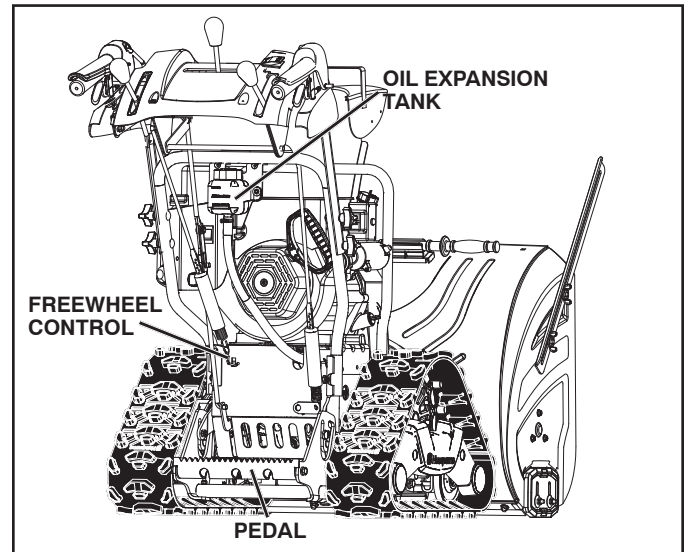

FIG. 13
Your snow thrower is equipped with a foot controlled height adjustment mechanism (See Fig. 13).
**IMPORTANT:** Your model snow thrower is equipped with an oil expansion tank attached to the hydrostatic transmission (see Fig. 13). As you run your snow thrower, the oil level will rise in this tank as the oil heats up and recess as the oil cools. This is normal operation. You do not need to add oil to this tank as part of regular maintenance.